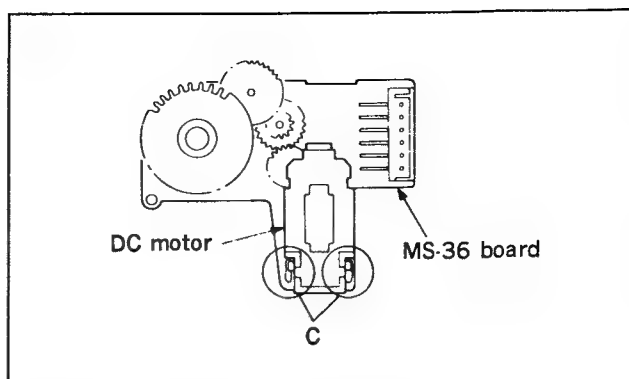

Fig. 4-23-6 DC motor replacement
27. DC motor replacement (Fig.4-23-6)